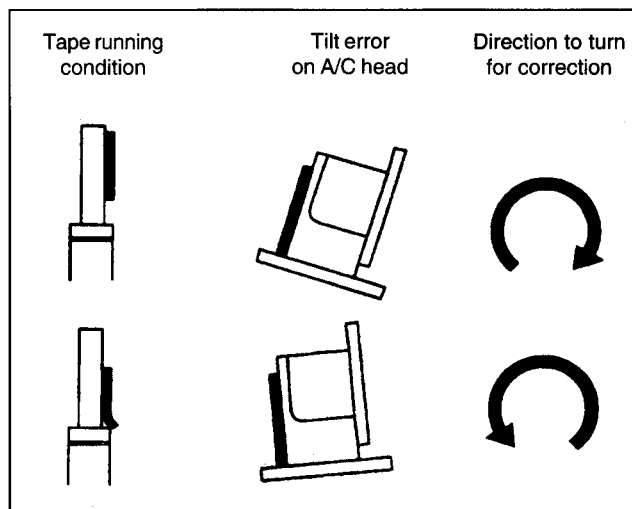

Fig. M14
- By means of the tilt angle adjusting screw, move the tape until the lower edge just touches the tape guide A1 (see fig. M14) ; the tape must not be distorted by the lower edge.